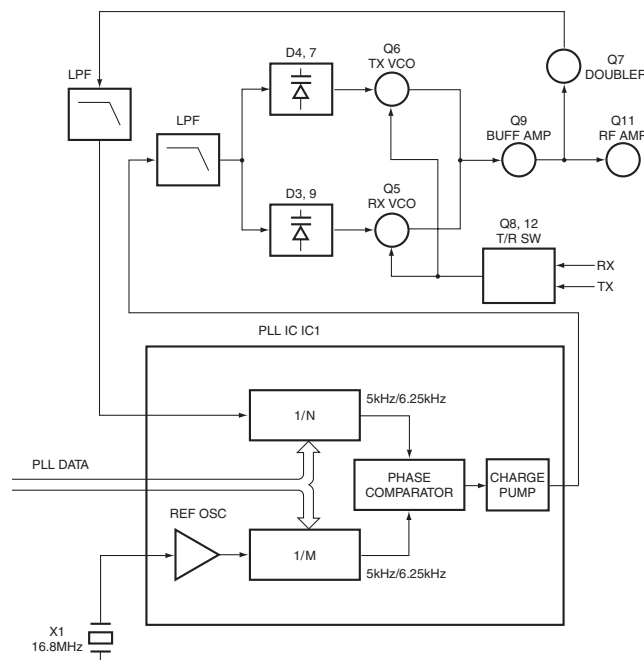

Fig. 6 PLL circuit / 图6 PLL 电路
The frequency step of the PLL circuit is 5 or 6.25kHz. A 16.8MHz reference oscillator signal is divided at IC1 by a fixed counter to produce an oscillator (VCO) output signal which is buffer amplified by Q9 then divided in IC1 by a dual-module programmable counter. The divided signal is compared in phase with the 5 or 6.25kHz reference signal from the phase comparator in IC1. The output signal from the phase comparator is filtered through a low-pass filter and passed to the VCO to control the oscillator frequency. (See Fig. 6)
16.8MHz 的参考振荡信号在 IC1 中被一个固定计数器分频。振荡器 (VCO) 的输出信号由 Q9 缓冲放大,然后在 IC1 中被一个可编程双模块计数器分频。分频的信号在 IC1 的相位比较器中进行比较。生成的信号通过一个低通滤波器滤波后传送到 VCO 控制振荡器频率。(见图 6)